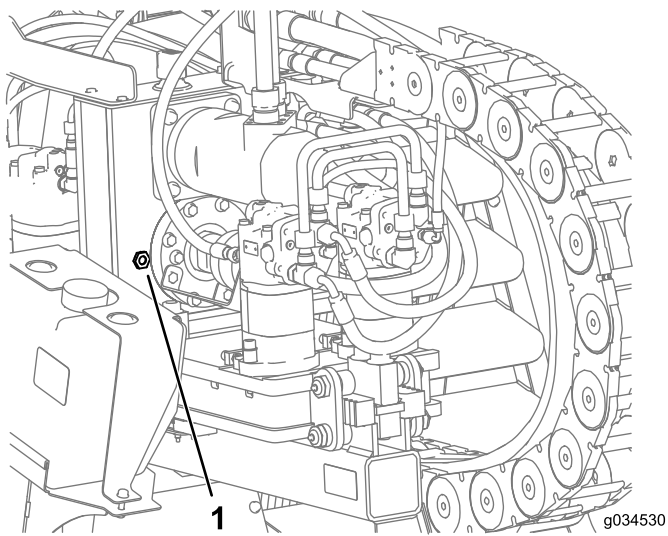

Figure 132
2. Check the oil level on the sight-glass on the gearbox drive (Figure 132).
3. Remove the breather cap and add the oil into the gearbox drive until the oil level on the sight-glass is at least half full (Figure 132).
6. Fill the gearbox with oil until the oil level in the sight glass is more than half full (Figure 132).